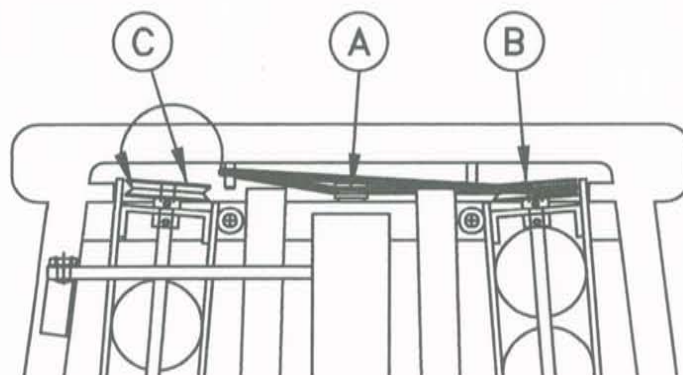

Figure 9
8. Refer to Figure 9. To install the Rubber Drive Belt (located at the narrow end of the instrument): (a) Slip the Drive Belt around the Pulley on the Motor. If your model has no motor, start with step b. (b) Slip the Belt around one of the Resonator pulleys. (c) Stretch the Belt by hand and slip it around the other Resonator pulley. Pull the belt by hand to insure it is correctly hooked onto the Resonator Pulleys. Try to align the pulsators evenly by holding onto one pulley while rotating the other.